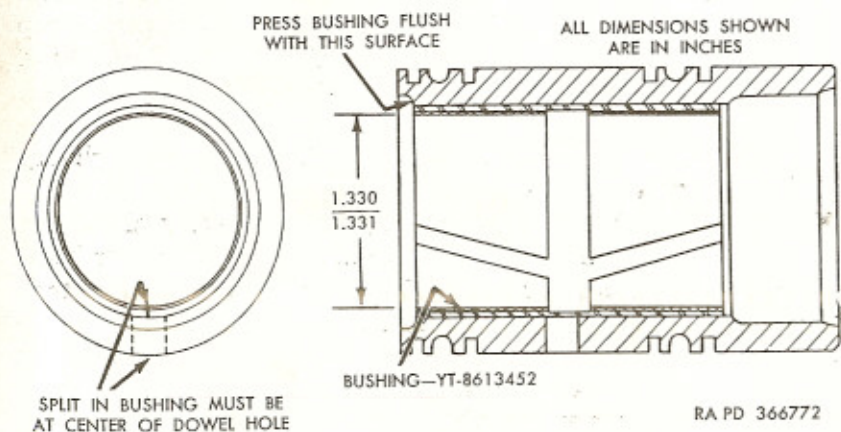

Figure 123. Sectional view of front clutch oil delivery sleeve assembly.
- (e) Inspect bushing (fig. 123) in oil delivery sleeve for wear (par. 163). If necessary to replace center bearing bushing, remove bushing with suitable tool; then press new bushing into oil delivery sleeve and finish to dimensions shown on figure 123. Split of bushing must center over dowel hole in sleeve.
- (3) *Planet carrier assembly (B).*